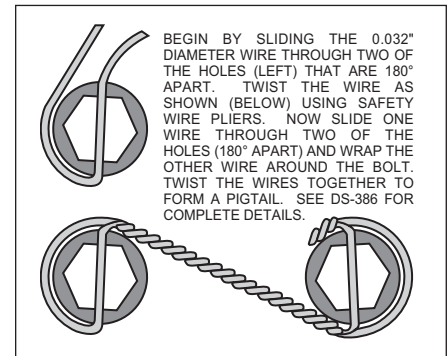

Figure 4. Safety Wire Diagram
•**NOTE:** Please reference the caution statement at the beginning of the assembly instructions. WITH THE BLEED SCREWS POINTING UP, mount the caliper (3) over the rotor (2) and onto the caliper mounting bracket (1) using lock washers (4) and mounting bolts (5). View the rotor through the top opening of the caliper. The rotor should be aligned in the center of the caliper. If not, adjust the caliper by using 0.032 inch shims (6) by placing them between the caliper mounting bracket (1) and the caliper (3). Apply red *Loctite*® 271 to the mounting bolt threads (5), torque to 30 ft-lb. Safety wire the caliper mounting bolts (5) using standard 0.032 inch diameter stainless steel safety wire as shown in Figure 4. Please refer to Wilwood's data sheet DS-386 (available at www.wilwood.com/pdf/ds386.pdf) for complete safety wire installation instructions.